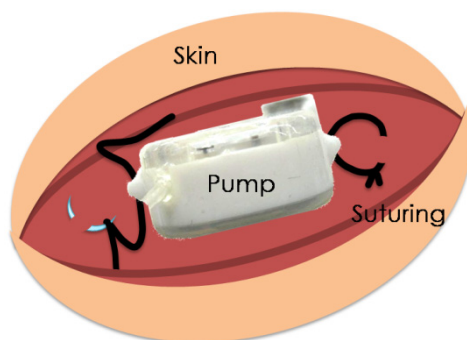

Fig. 4 Pump Fixation: View from the back of the pump with septum port on the right hand side.
7. Pump Fixation **...See Fig.4**